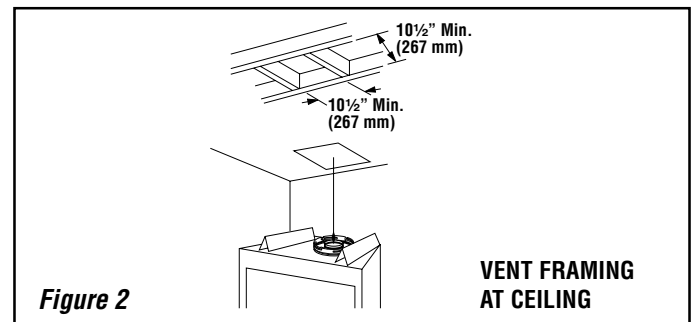
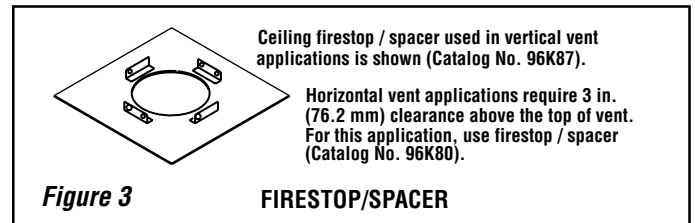

Figure 2
Figure 3
Step 2. Use a plumb line from the ceiling above the appliance to locate center of the vertical run. Cut and frame an opening, 10½" x 10½" (267mm x 267mm) inside dimensions, about this center mark (**Figure 2**). Frame all vent holes with 2 in. x 4 in. or larger lumber. Install a firestop/spacer (catalog no. 96K87), shown in **Figure 3**, at ceiling joists. If there is living space above the ceiling level, the firestop/ spacer must be installed on the bottom side of the ceiling as shown in **Figure 8**. If attic space is above the ceiling, the firestop/ spacer must be installed on the top side of the joist.